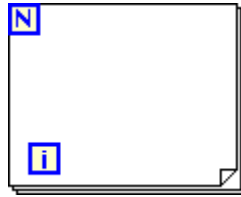

Figure 41: For Loop Function Block
*For loops* are used to generate values for a function for a range of its input variable(s). For loop function block is located under *Programming* → *Structures* and shown in *figure 41*. Operation of this block is very simple; loop is going to run for  $N$  times, with  $i$  being the current iteration value from 0 to  $N-1$ . Arrays are generally used to hold the values and results generated from the loop.